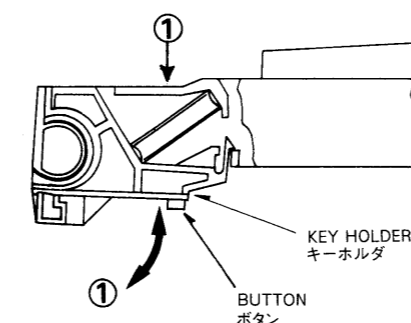

Fig. 2
3. Reshape the wire to Fig. 2, with the dimensions exactly matching the values given in the figure.
2. この針金をFig.2のサイズに合わせて折り曲げる。
**Natural Key/Black Key (Fig. 2)**
1. Finger-pinch the key and key holder at ①. Press and release the button on the holder and verify the smooth operation. Pressing the holder to the bottom makes a mechanical noise. This will not occur once installed on the keyboard whose mechanism prevents extensive key swing. Refer to "Hints On Key Mounting", as necessary.
2. Engage the forward hook on the key in the key chassis bracket ②.
2. キーの前端を持ち上げ、この状態で⑤の点線部分を矢印の方向に押す。
**SK-6 キー取付け方 (Fig.2)**